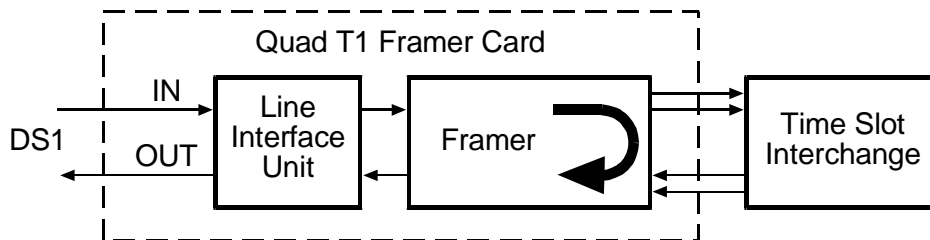

Figure 18-29. DS1 Payload Loopback
**Purpose:** Provides payload loopback to verify DS1 signal processing in the Quad T1 Framer card. The payload loopup command creates a signal connection inside the framer, causing it to loop the received payload data back into the framer, where the 24 DS0s are reframed as the DS1 transmit output. See Figure 18-29.